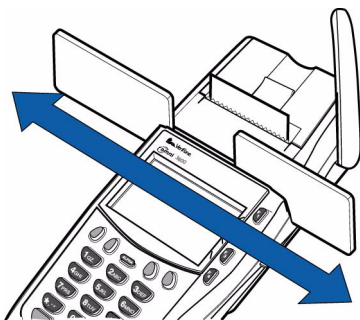

Figure 19 Using the Magnetic Card Reader
- 2 Swipe it through the reader from left-to-right, as shown in Figure 19.